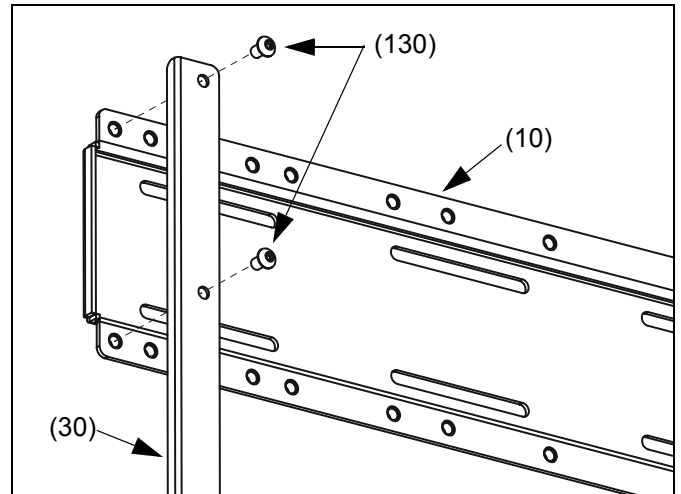

Figure 7: Side Support Assembly
1. Using key (150), loosely install support (30) to plate (10) with screws (130) (See Figure 7). Ensure lip of support (30) covers edge of plate (10).
3. Once all screws (130) are installed, tighten securely.